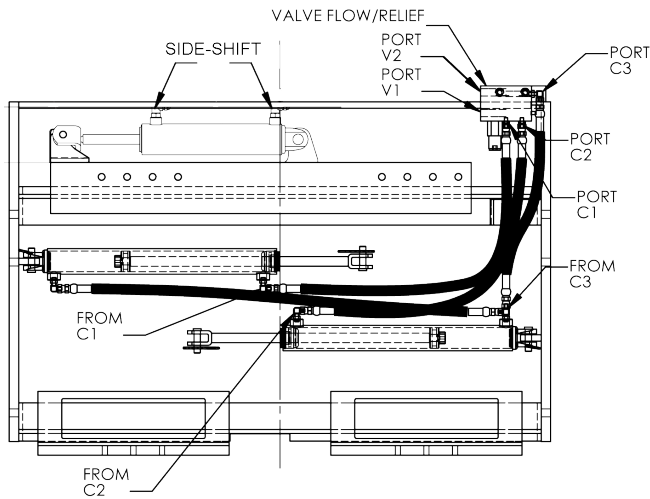

Figure 6-9, Hydraulic Hoses
2. Disconnect the hydraulic hoses from the truck at the attachments valve ports V1 (open) and V2 (close). (Figure 6-9)